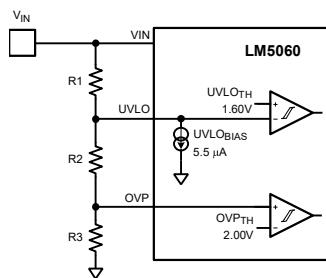

Figure 29. UVLO and OVP Thresholds Set by R1, R2 and R3
**Option A:** The configuration shown in Figure 29 requires three resistors (R1, R2, and R3) to set the thresholds.